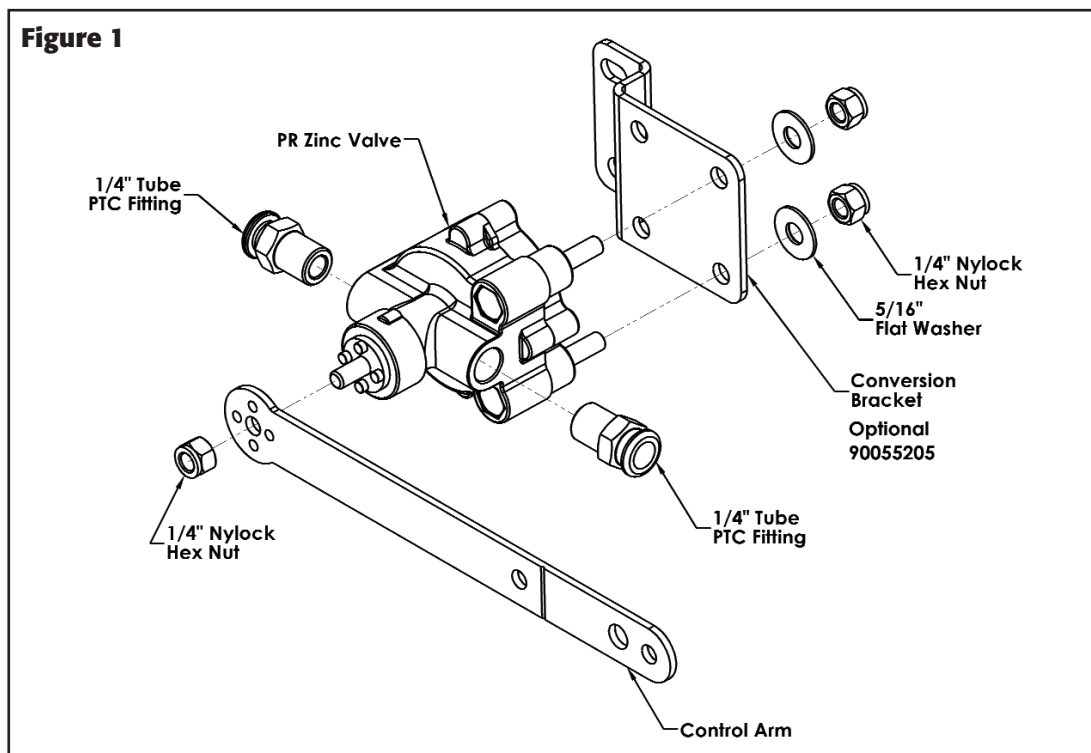

Figure 2
- 1) Screw in air spring and air supply fittings to PR valve as shown in Figure 1 or Figure 2 (on reverse). Check for correct line sized fittings.
- 9) Connect air lines to the PR HCV using the markings from step 5. The port locations are shown in Figure 2 (on reverse).